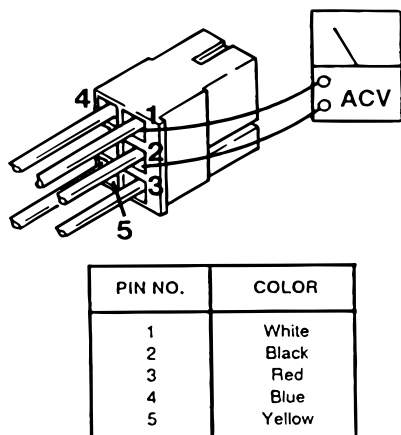

Figure 6-7. Connector CN4
2. Use an AC voltmeter capable of measuring 120 volts and measure the voltage between pins 1 (white) and 2 (black) of connector CN4 for input voltage. See figure 6-7. Meter should read line voltage 120VAC.